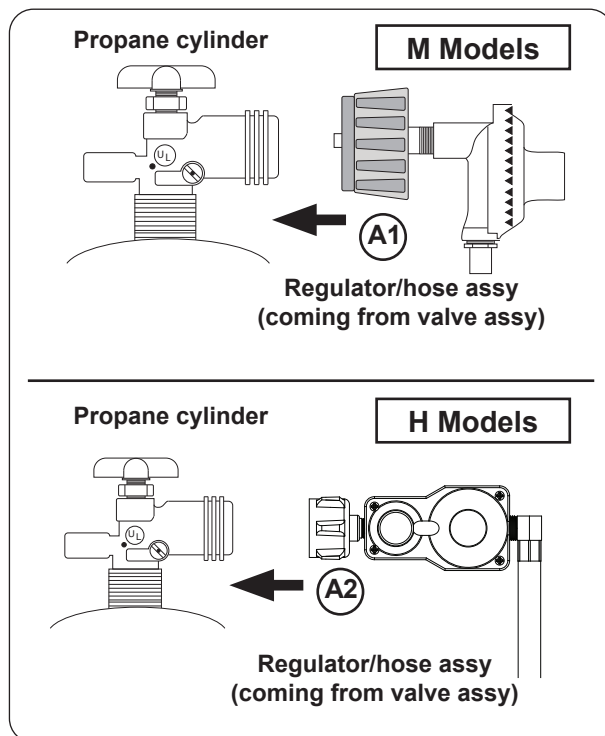

Fig. 28-1 Connecting to an L.P. cylinder
2. Attach the regulator end of the hose assembly to a propane cylinder (not included) and tighten (see Fig. 28-1).